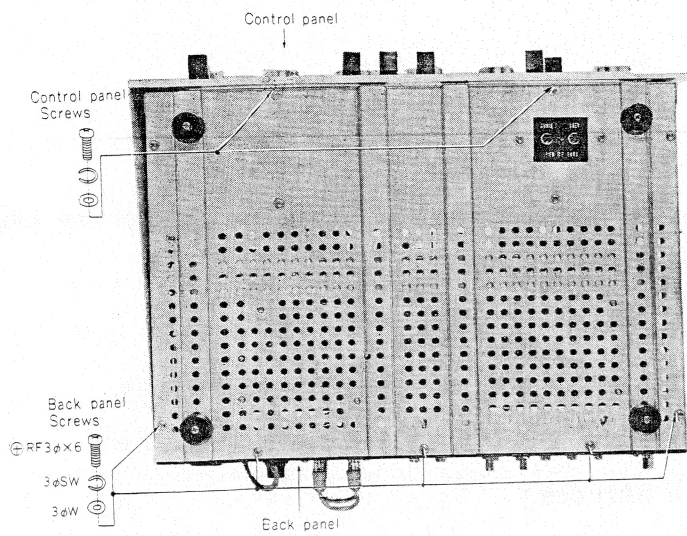
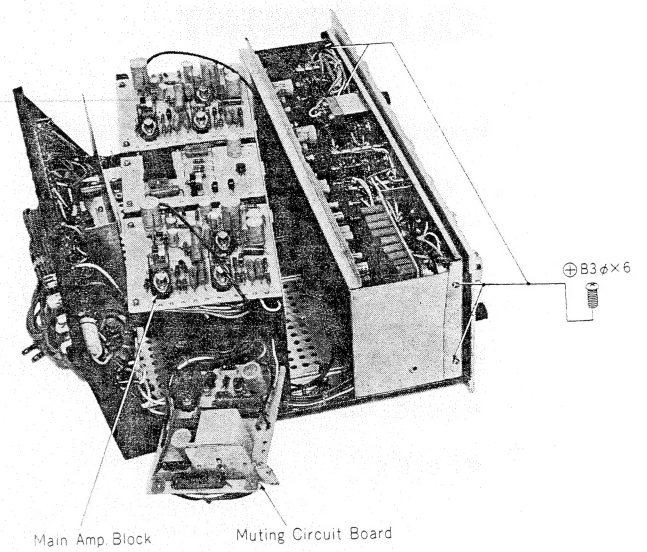
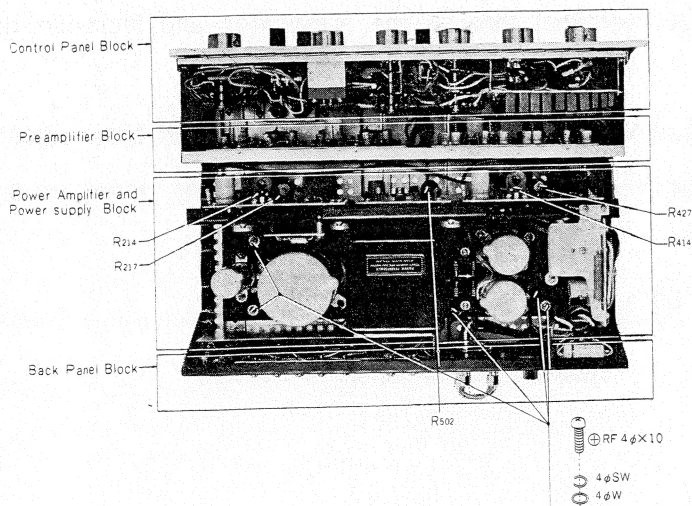

Fig. 1
Fig. 4
Fig. 3
- (b) Remove five screws from bottom of chassis to release the back panel block as shown in Fig. 1.
- (d) Remove the five screws from main amplifier and power supply chassis as shown in Fig.3, so you can turn the block to make the circuit board up as shown in Fig.4.
- (a) After take the chassis cover off, remove two screws from the bottom of chassis (Fig.1), and then remove four screws from side of the chassis as shown in Fig. 4, now you can separate control panel block from chassis.